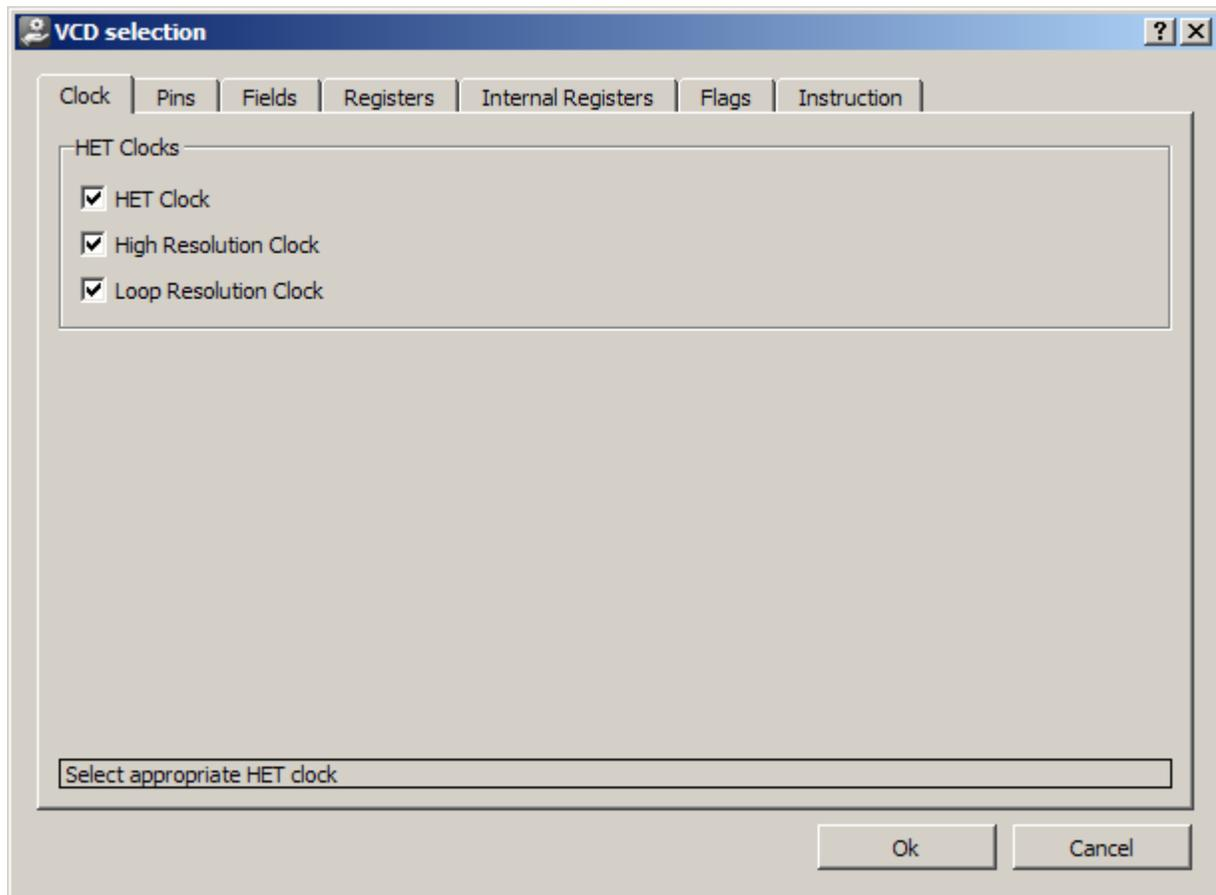

Figure 37. Waveform Wizard
- (c) Open Waveform Wizard (see Figure 37).